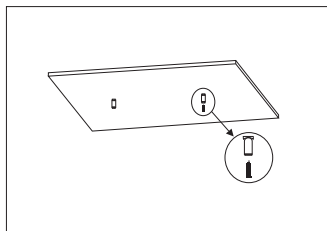

Figure 2
2. Lock the hanging part of the wire rope to the ceiling. (Figure 2)